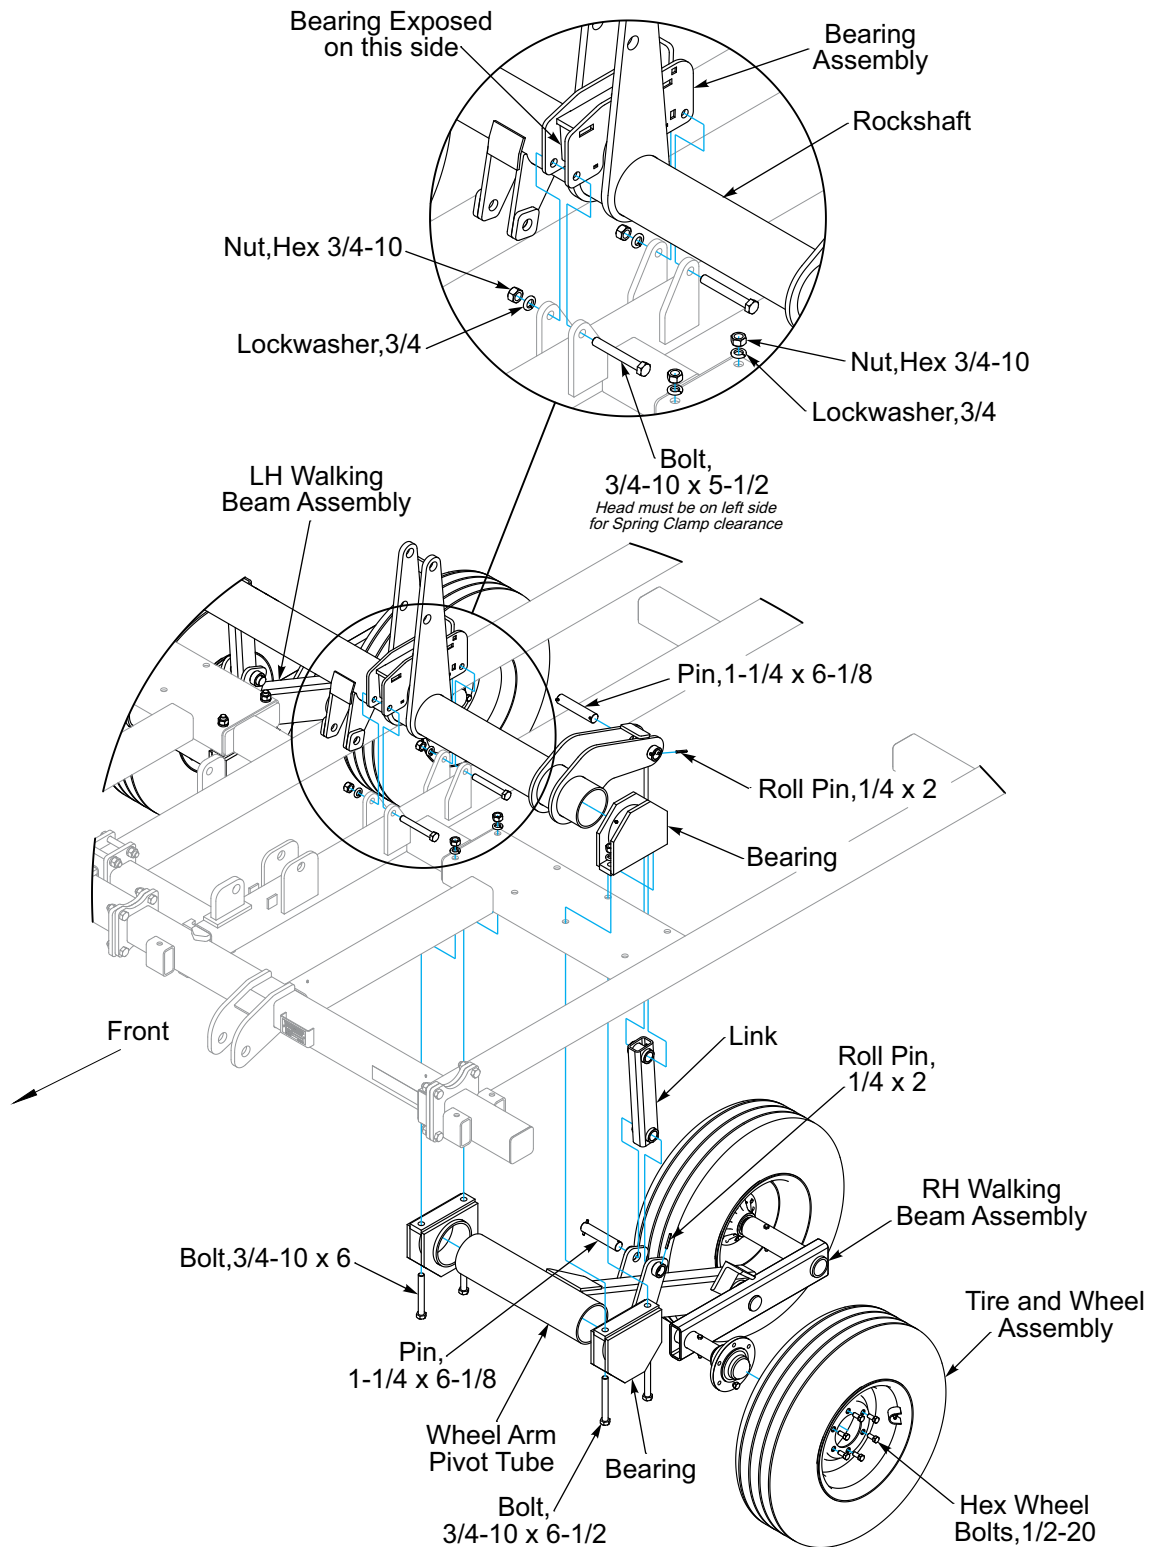

Figure 2-6: Tandem Wheel Transport Axle Assembly 9 Shank Models
5. 9 Shank Tandem Models are assembled a little differently. The Rockshaft End Bearings and each Wheel Arm Pivot Tube End Bearing will be on top of the other and attached to the 10 x 4 Frame Tube with 3/4-10 x 6-1/2 Bolts, Lockwashers and Hex Nuts. Also, the RH Walking Beam Assembly will be assembled on the left side of the machine and the LH Walking Beam Assembly will be on the right side of the machine. **See Figure 2-6.**